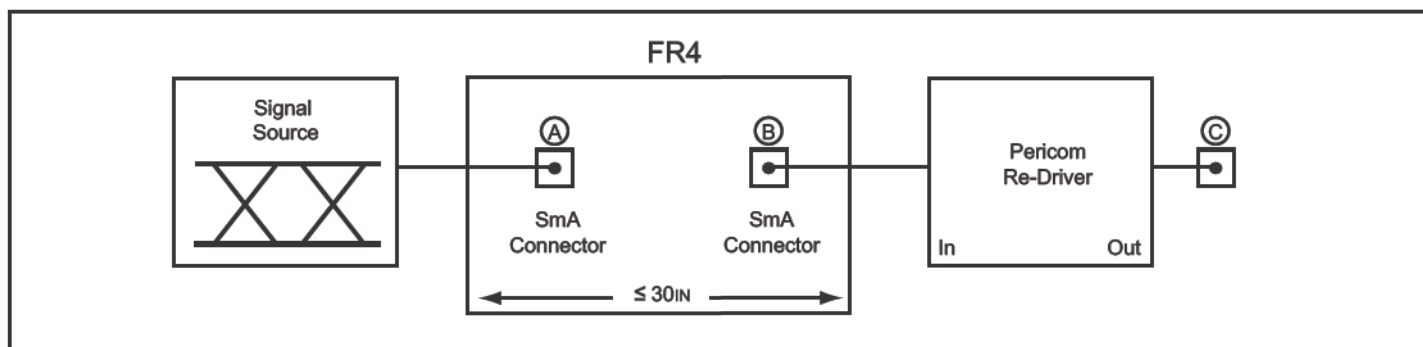

Figure 1. Test Condition Referenced in the Electrical Characteristic Table
1. K28.7 pattern is applied differentially at point A as shown in Figure 1.
2. Total jitter does not include the signal source jitter. Total jitter (TJ) = (14.1 × RJ + DJ) where RJ is random RMS jitter and DJ is maximum deterministic jitter. Signal source is a K28.5 ± pattern (00 1111 1010 11 0000 0101) for the deterministic jitter test and K28.7 (0011111000) or equivalent for random jitter test. Residual jitter is that which remains after equalizing media-induced losses of the environment of Figure 1 or its equivalent. The deterministic jitter at point B must be from media-induced loss, and not from clock source modulation. Jitter is measured at 0V at point C of Figure 1.